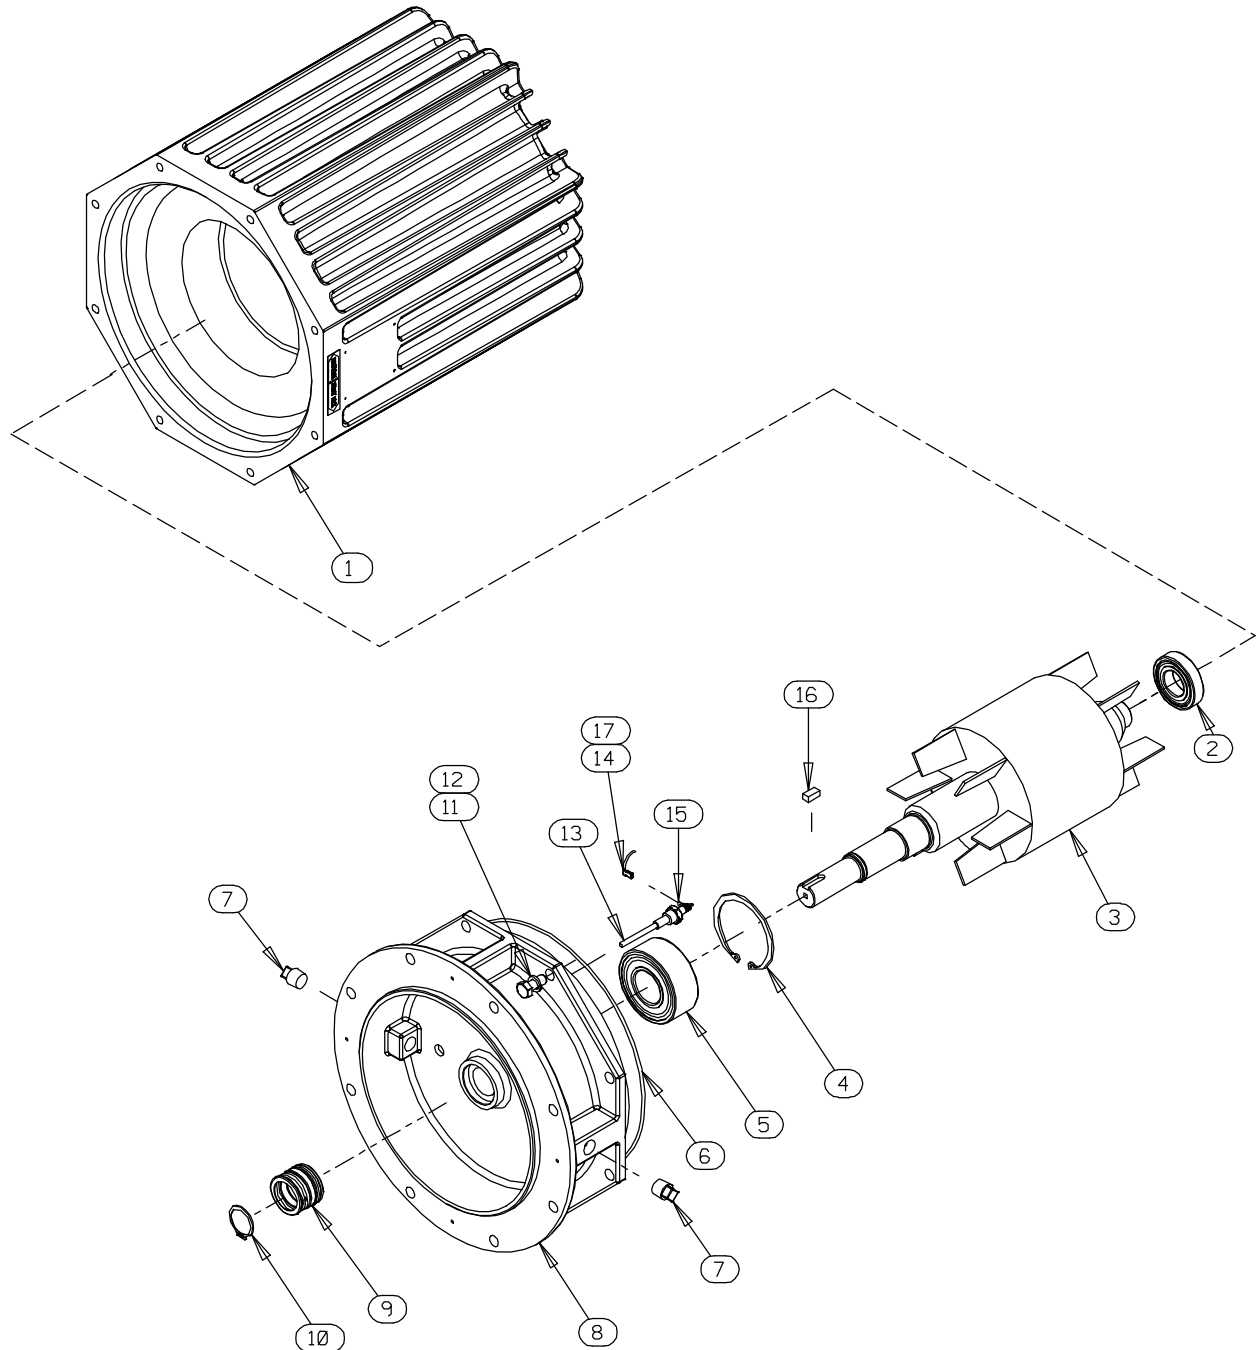

Figure E-2. 47111-771, -772 and -818 Motor Assemblies
Draining Oil From Seal Cavity**(Figure E-2)**
the impeller and “walk” the impeller off the shaft. Use increasingly larger screwdrivers (or wedges) as necessary. After the impeller comes free of the shaft, retain the impeller key (16, Figure E-2).
An alternate method of removing the stationary element is to remove the screws (16) securing the seal plate (14) to the motor assembly (6). Pry the assembled seal plate and stationary element off the shoulder of the intermediate (8, Figure E-2). Remove the O-ring (5) and press the stationary element and seat out of the seal plate from the back side.
(Figures E-2 and E-3)